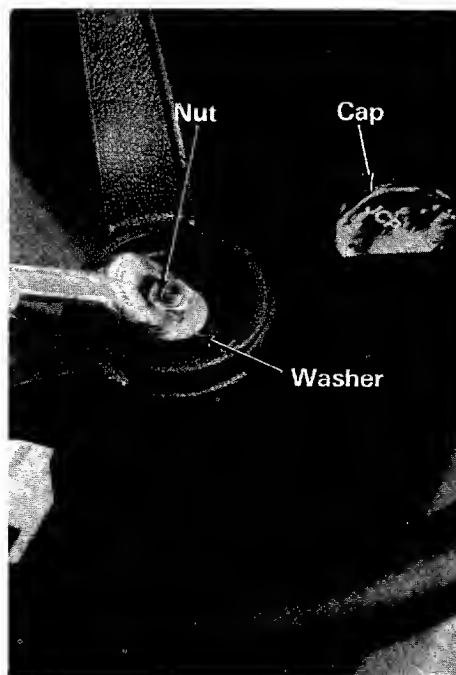

Figure 1
- 1 Place the steering wheel over the steering column extending through the dash. Line up the flats on the steering column with the flats in the steering wheel. (See figure 1.)